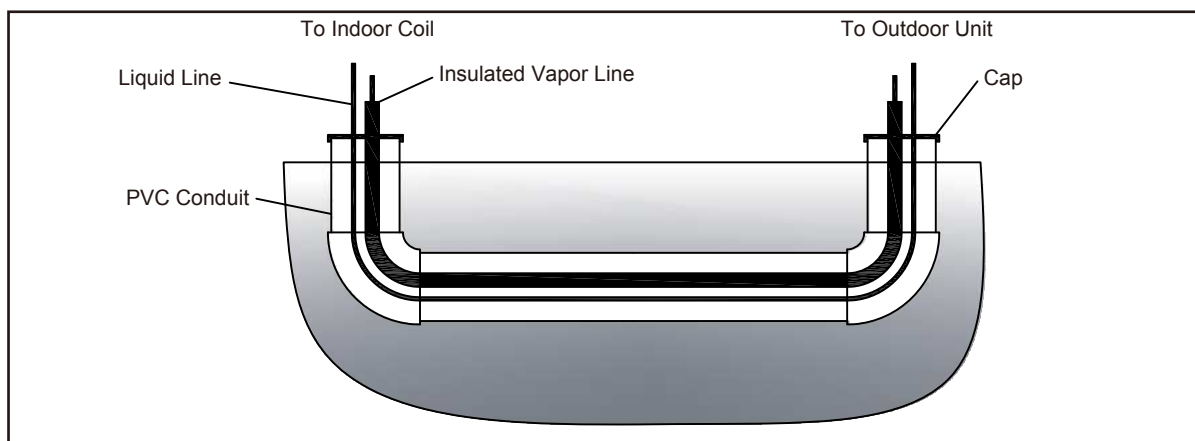

Figure 6-4
- Use PVC piping as a conduit for all underground installations as shown in Figure 6-4 Buried lines should be kept as short as possible.